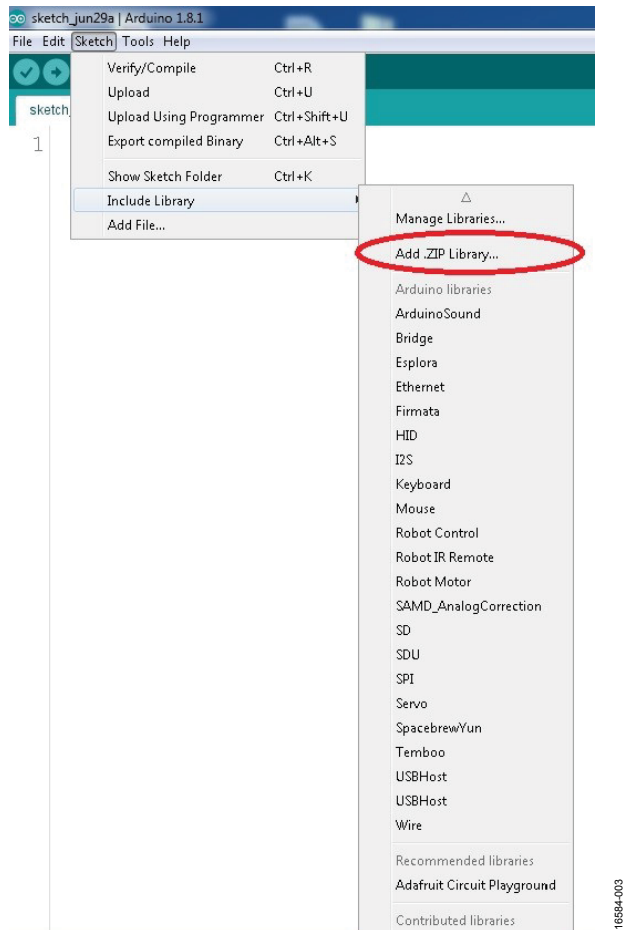

Figure 3. Installing the Arduino Library
2. Install the ADE9153A Arduino library as shown in Figure 3.